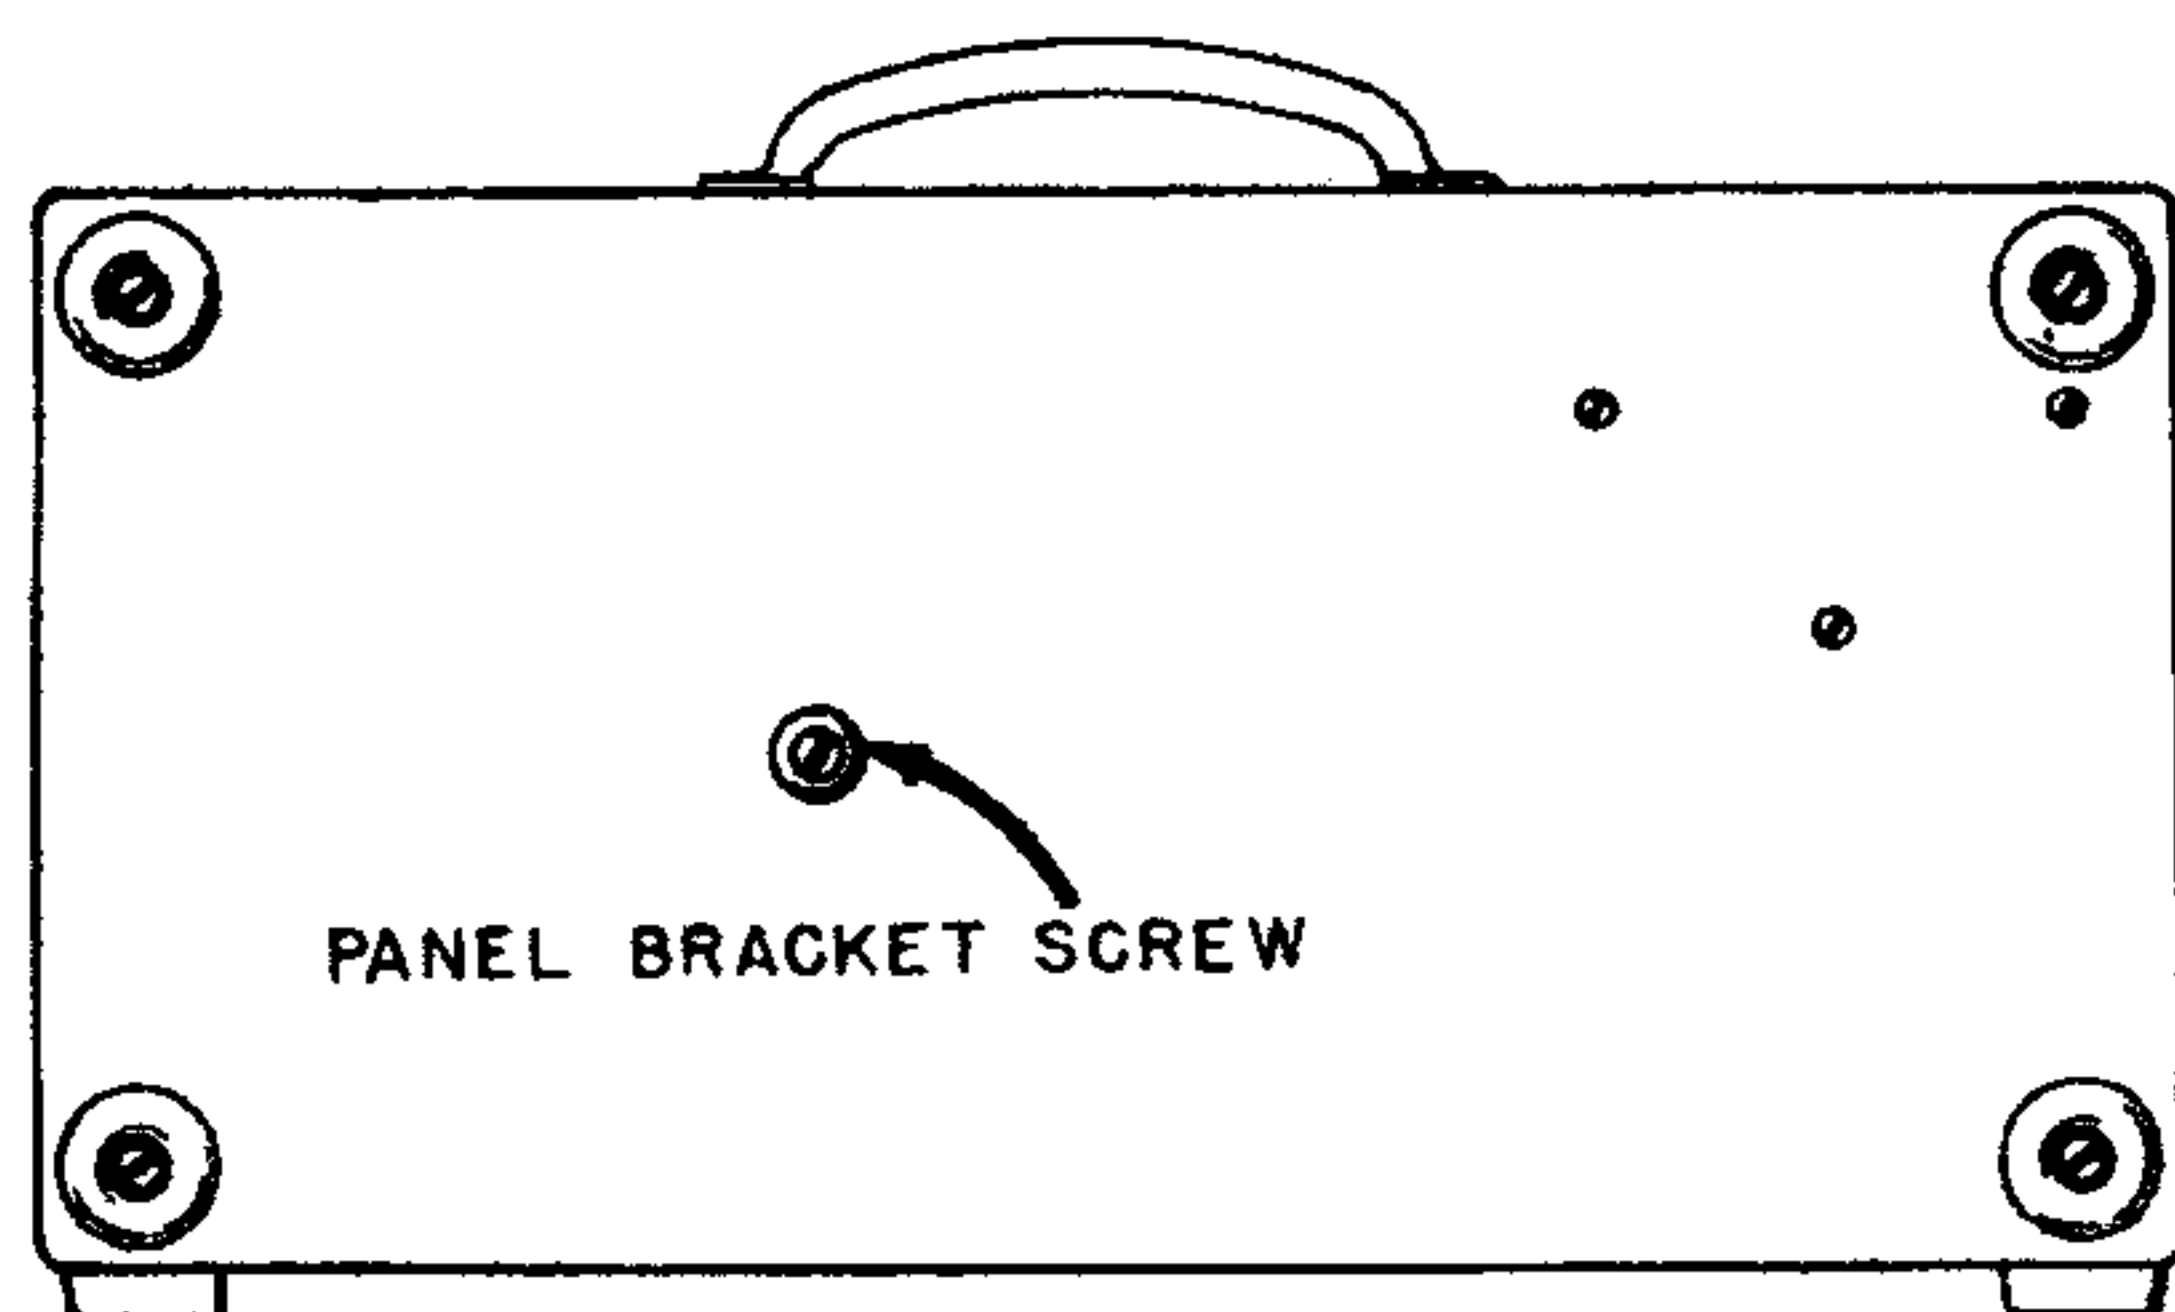

Figure 1—Bottom View of Case Showing Location of Panel Bracket Screw.
To remove the panel assembly from the case: (1)—Remove the panel bracket screw from the bottom of the case (Refer to Figure 1). (2)—Remove the four corner panel to case screws. (3)—Lift the panel assembly carefully and feed approximately two feet of line cord through the rubber grommet in the accessory compartment partition. The panel assembly can then be set face down on the bench.